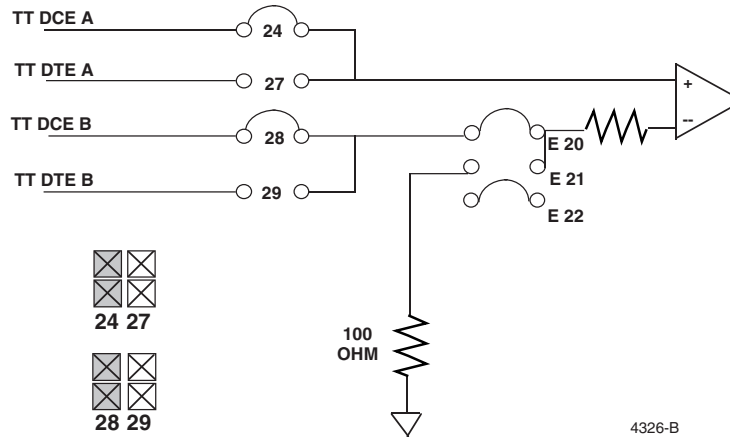

Figure 5-8. PatchMate EIA-530 Transmit Timing Straps
The transmit signal element timing (TT) can be sourced from either the DCE or DTE leads. A set of Berg strap connections is provided to select the element monitoring indications on the TT LED. The DCE sourced element (signal pins 15A and 12B) or the DTE sourced element (signal pins 24A and 11B) are strapped as required. The module is furnished with signal pins 15A and 12B factory wired as shown in Figure 5-8. Also see Table 5-1.